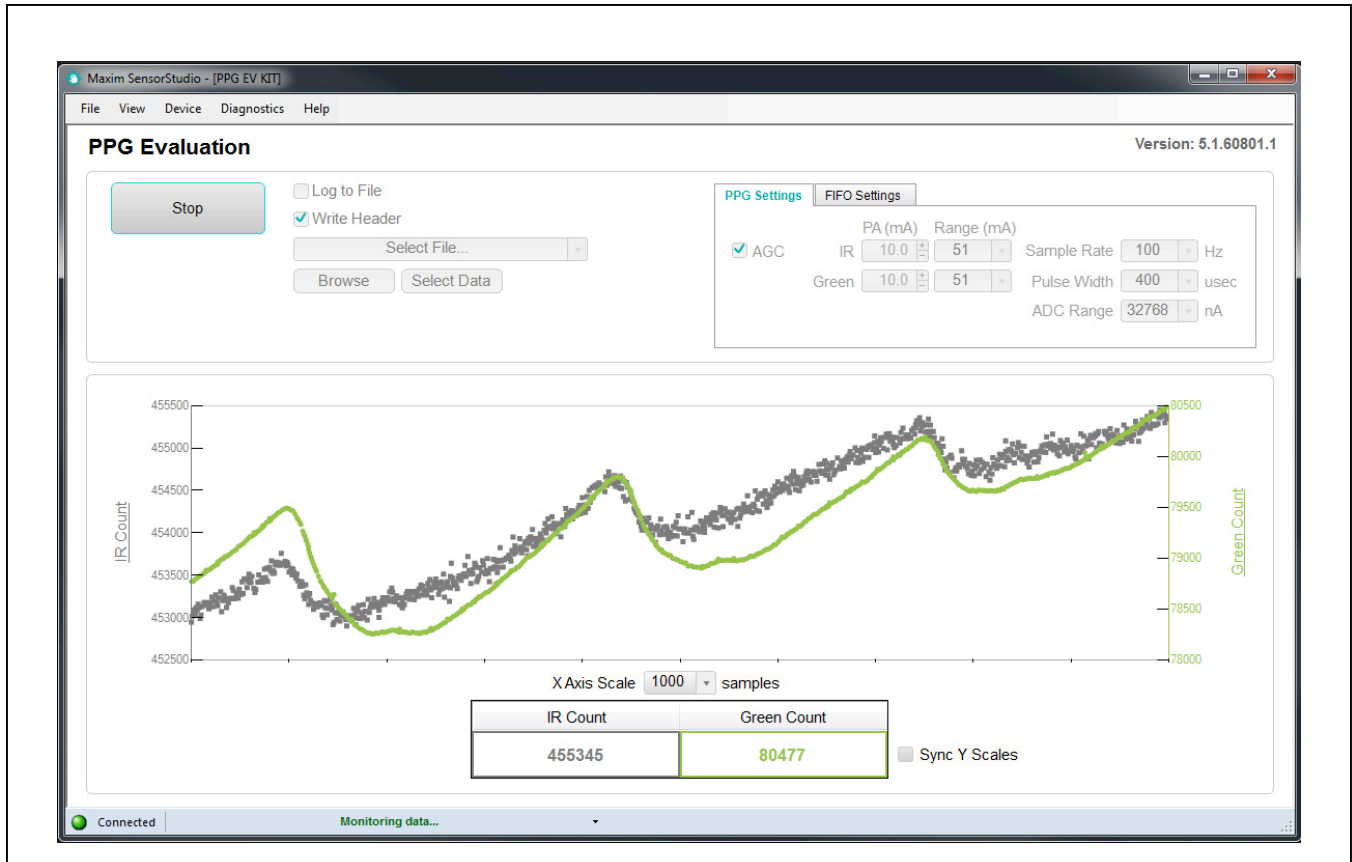

Figure 7. Maxim SensorStudio GUI – PPG Evaluation Page: Monitoring Data
- 10) Place the test subject on top of the MAX86160 (U1) of the MAX86160 Breakout EV Kit and observe the PPG graphs. See Figure 7.